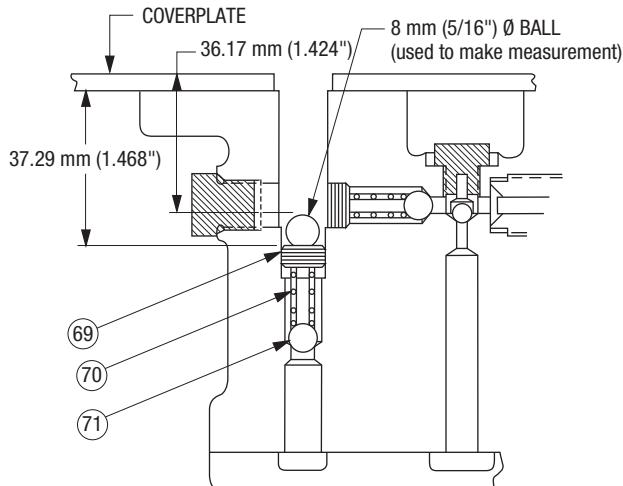

Figure A5 (4)
Low-pressure bypass check valve is set incorrectly.	See Hydraulic Schematic (4). If set too low: The pump cannot shift to the high-pressure stage. See Pressure Adjustment for the Low-Pressure Bypass Check, Figure A5 in the Repairs section of this manual. If set too high: The pump cannot restart under pressure. See Pressure Adjustment for the Low-Pressure Bypass Check, Figure A5 in the Repairs section of this manual.
Low-pressure bypass check valve is faulty.	See Hydraulic Schematic (4). If set too low: The pump cannot shift to the high-pressure stage. See Pressure Adjustment for the Low-Pressure Bypass Check, Figure A5 in the Repairs section of this manual. If set too high: The pump cannot restart under pressure. See Pressure Adjustment for the Low-Pressure Bypass Check, Figure A5 in the Repairs section of this manual.
When properly set to the dimension shown in Figure A5, the high pressure stage operation of the pump will be delayed approximately one (1) second after the motor starts. This delay is created by the closing time of the pilot-operated valve.